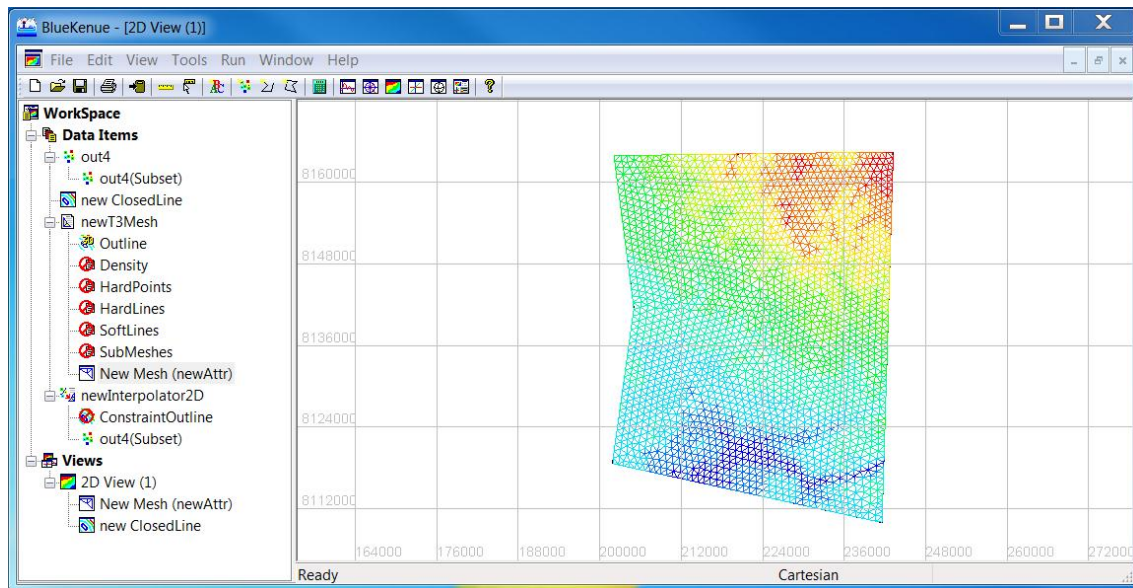

Figure A115: The new interpolated mesh.
14. Mesh shown in (Figure A115) Page 94